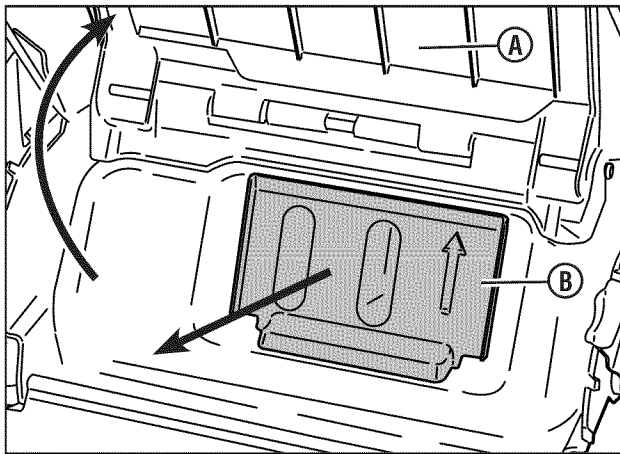

Figure 12: Removing the mulching plug
1. Raise the rear discharge door (A, Figure 12).
2. Remove the mulching plug (B) from the rear discharge chute.